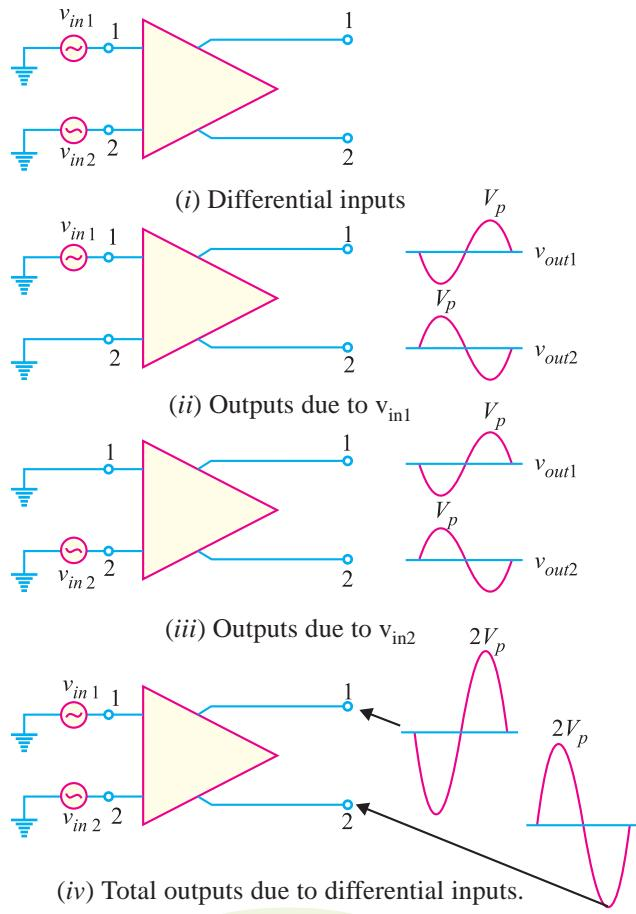

Fig. 25.10
**(i) Differential input.** In this mode (arrangement), two opposite-polarity ( $180^\circ$  out of phase) signals are applied to the inputs of DA as shown in Fig. 25.10 (i).
As we shall see, each input affects the \*outputs. Fig. 25.10 (ii) shows the output signals due to the signal on input 1 acting alone as a single-ended input. Fig. 25.10 (iii) shows the output signals due to the signal on \*\*input 2 acting alone as a single-ended input. Note that in Figs. 25.10 (ii) and (iii), the signals on output 1 are of the same polarity. The same is also true for output 2. By superimposing both output 1 signals and both output 2 signals, we get the total outputs due to differential inputs [See Fig. 25.10(iv)].
- \* Note that in all the Figures in Fig. 25.10, the phase of the input signal is given in the circle and the phase shift in the output signal is given at the output terminals. Thus in Fig. 25.10 (ii), the output signal at terminal 1 is  $180^\circ$  out of phase with the input signal. On the other hand, the output signal at terminal 2 is in phase with the input signal.
- \*\* Note that a DA amplifies  $(v_1 - v_2)$ . For Fig. 25.10 (ii),  $v_{in1} - v_{in2} = v_{in1} - 0 = v_{in1}$ . For Fig. 25.10 (iii),  $v_{in1} - v_{in2} = 0 - v_{in2} = -v_{in2}$ .